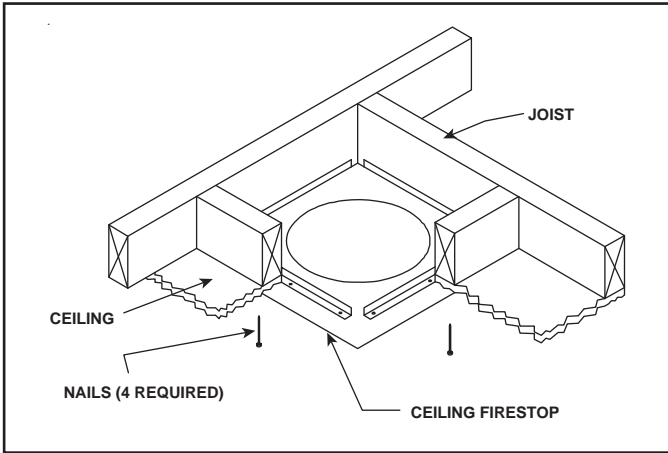

Figure 10.14 Ceiling Firestop (Ceiling Side)
- Caulk the perimeter of the flashing where it contacts the roof surface. See Figure 10.14.